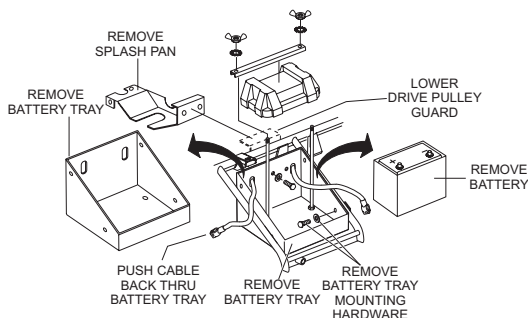

Figure 3. Battery Removal (HHN 34TVD)
1. Disconnect both battery cables from the battery. Remove splash pan from battery tray and trowel frame. Set pan aside in a clean, safe place. See Figure 3.